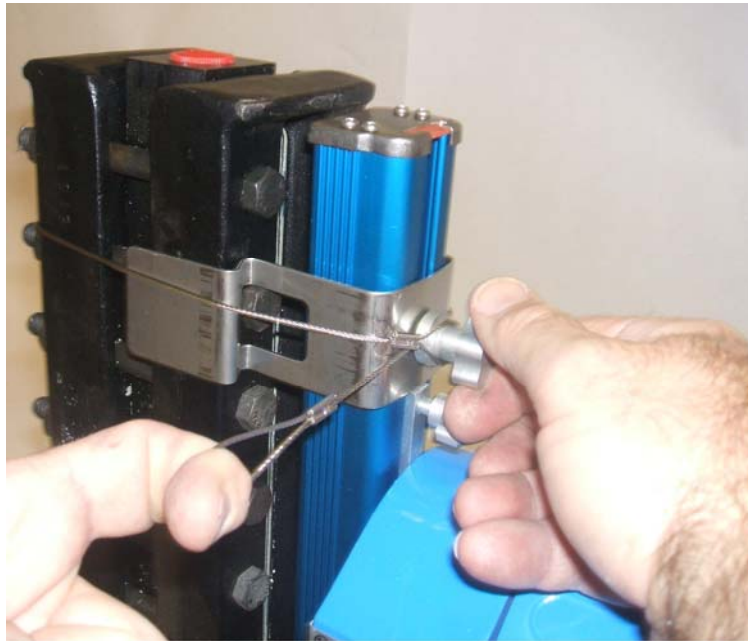

Figure 7
**Step 5:** After the lower bracket has been tightened, go back to the top bracket and loosen the thumb nut enough to allow the cable to slide through freely. Pull cable as tight as possible, and fully tighten thumb nut as shown in Figure 7.